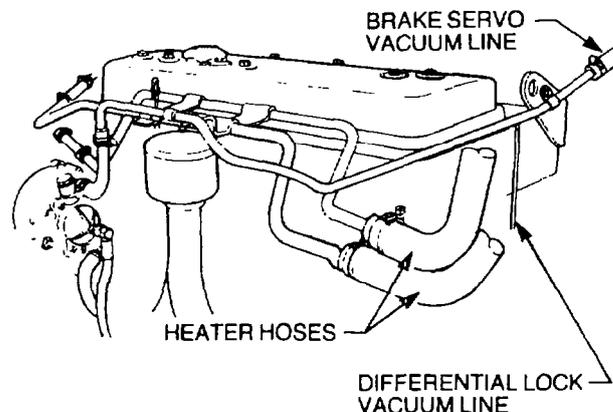

Figure 3 Vacuum Line and Heater Hose Connections
- l. Disconnect the heater hoses at the heater inlet and outlet pipes and plug the hoses with suitable plastic plugs (Figure 3).
- bb.** Connect the vacuum lines to the brake servo and the differential lock (Figure 3).
- cc.** Remove the plastic plugs and connect the heater hoses (Figure 3).